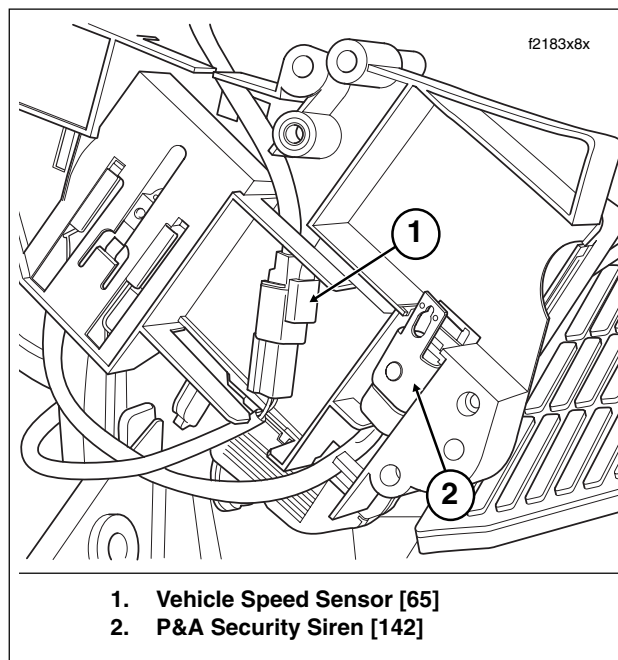

Figure 8-112. Electrical Bracket (Inboard Side)
5. Disconnect vehicle speed sensor connector [65], 3-place Deutsch, on the inboard side of the electrical bracket. See Figure 8-112.
6. Mate pin and socket halves of vehicle speed sensor connector. Route connector and cable on inboard side of electrical bracket as shown in Figure 8-112. Be sure that cable is properly routed or wires may be pinched during installation of bracket.